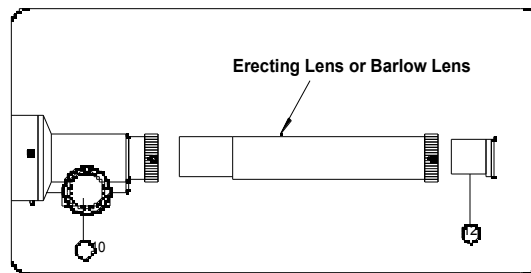

fig. 3
3. Also included with this telescope is an Erecting lens. An Erecting lens is used to view land-based object where the correct image orientation is important. The Erecting lens re-oriens the telescope image so that the image you see is properly oriented. Place your Erecting lens between the focusing tube and the eyepiece (fig. 3). It is not recommended to use the **Diagonal Mirror (11)** with the Erecting lens. The **Diagonal Mirror** will make the erected image appear to be "flipped" depending on the orientation of the diagonal mirror- relative to the telescope.